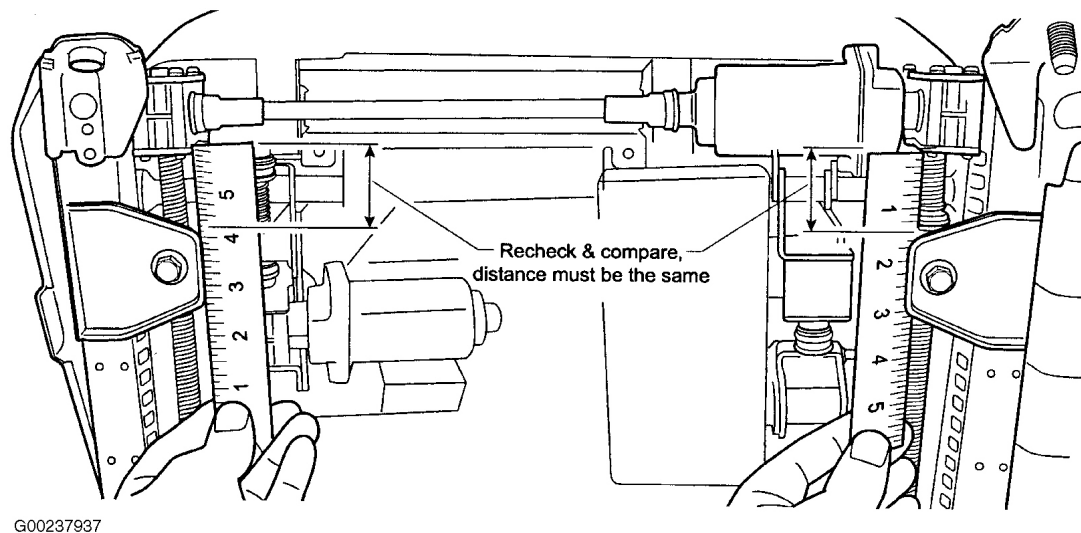

Fig. 11: Rechecking Gear Case to Mounting Tab Distance
11. Check the gear case to mounting tab distance again. Make sure they have not moved see **Fig. 11**). If N/G, adjust.